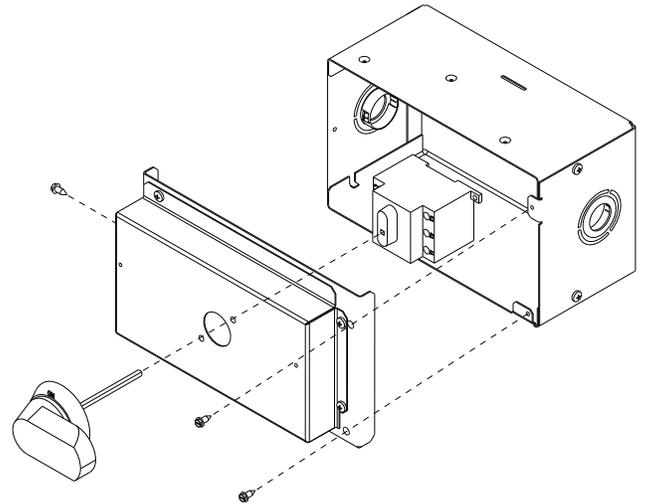

Fig. 27 — NFD Handle and Shaft Assembly
5. Insert the shaft with the cross pin on the top of the shaft in the horizontal position. See Fig. 27.
10. Secure the handle to the painted cover with (2) screws and lock washers supplied.
11. Engaging the shaft into the handle socket, re-install (3) hex screws on the NFD enclosure.